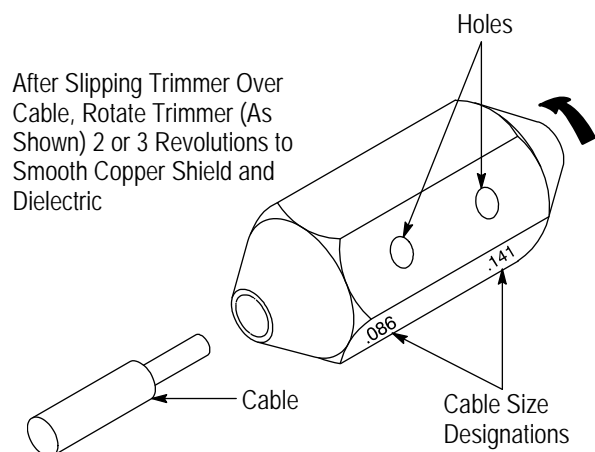

Figure 6
1. Slip the correct end of the trimmer tool over the exposed cable end. See Figure 6.